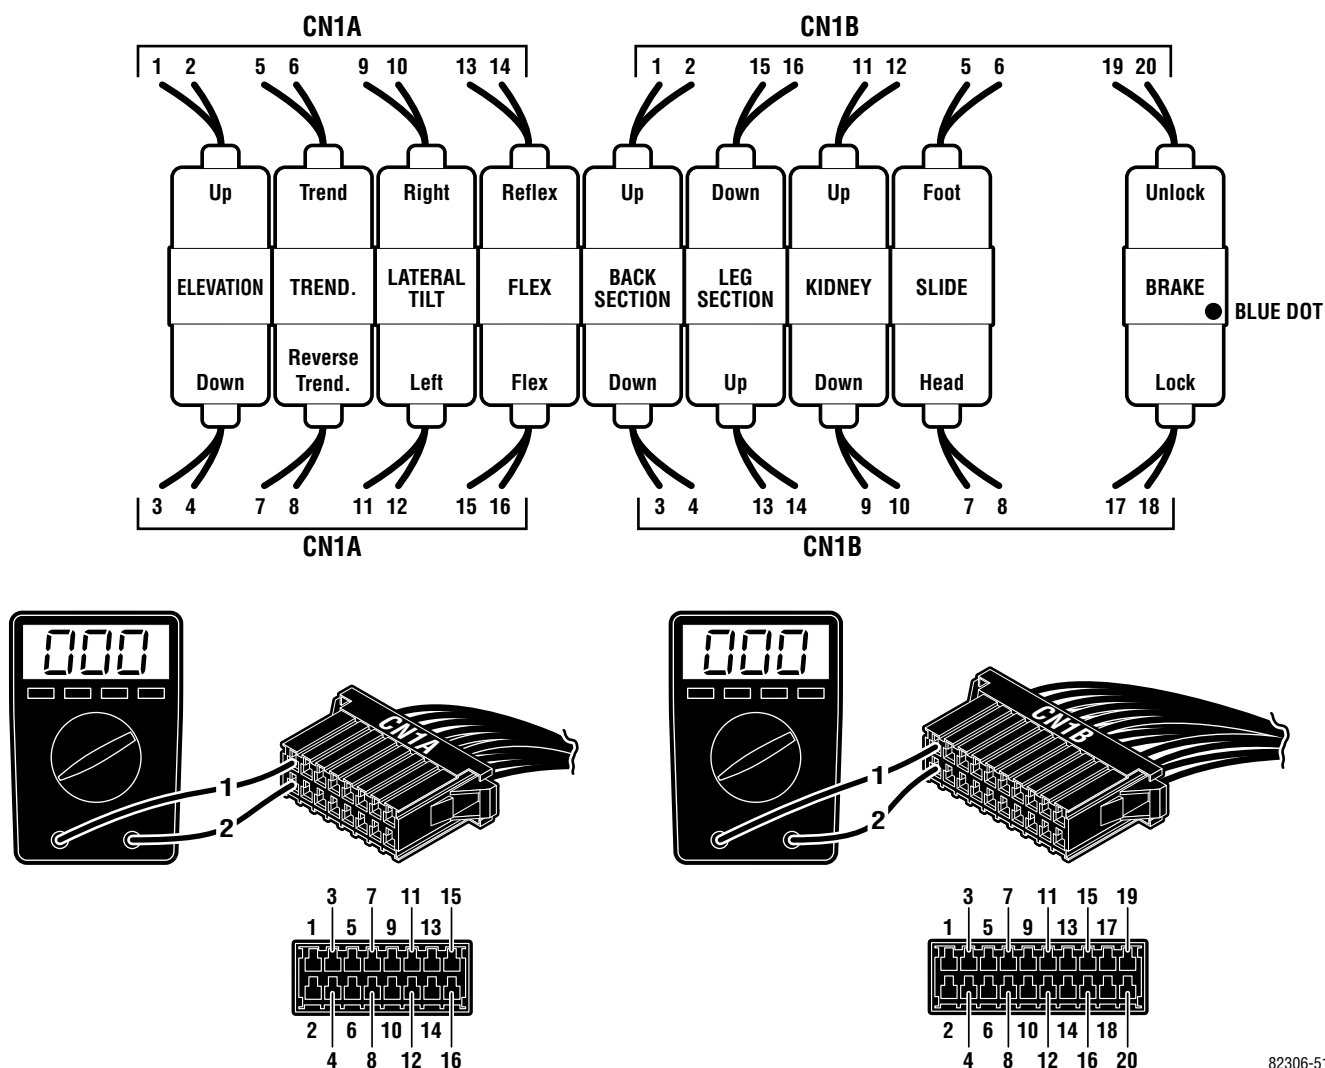

Figure 5-17. Solenoid Test
1. Disconnect connectors CN1A and CN1B. Measure the resistance between the two pins at the connector for the solenoid in question as shown in figure 5-17. Polarity of meter leads is not important.